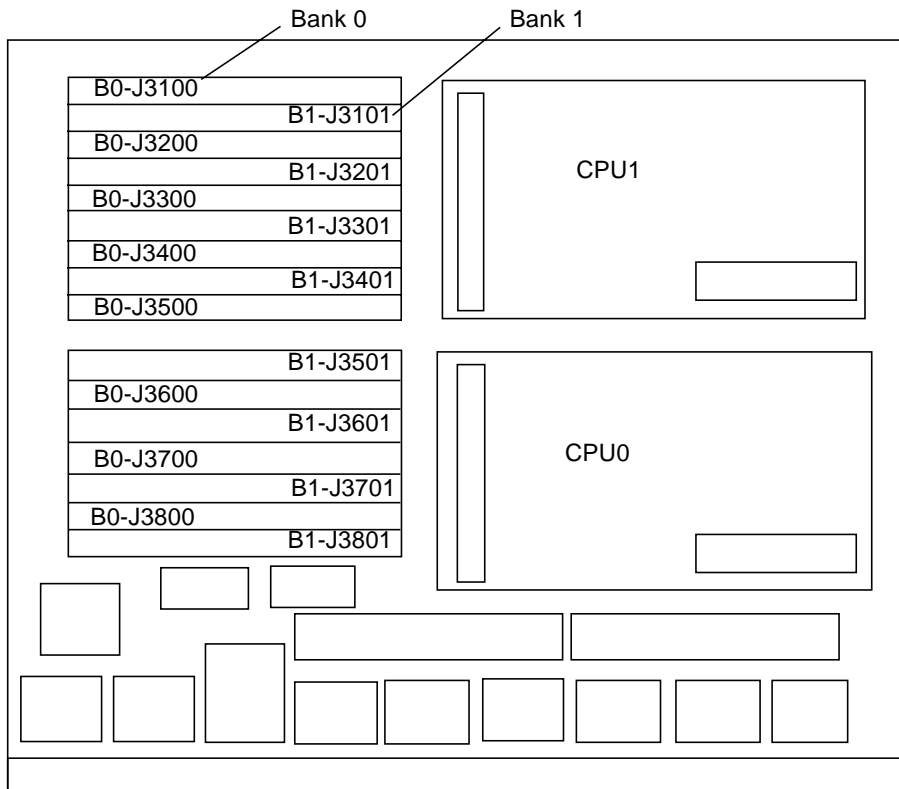

FIGURE 3-10 Layout of CPU/Memory+ Board
The CPU/Memory+ board has 16 DIMM sockets, which are divided into two banks of 8 DIMMs each, bank 0 and bank 1. All DIMMs within a bank must be the same size. Bank 0 and bank 1 DIMMs occupy alternate slot locations; bank 0 DIMMs are in the even numbered slots, and bank 1 DIMMs are in odd numbered slots (FIGURE 3-10).
3. Locate the slot for the DIMM you need to replace (FIGURE 3-10).